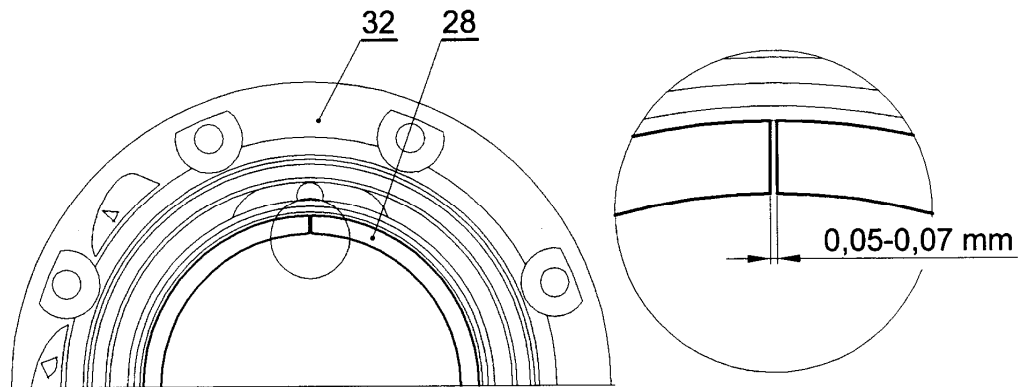

Fig.508 Sealing ring clearance in the lock
- (3) Check clearance in the lock of all new rings after insert to the distributor. Required clearance 0,05 – 0,07 mm (see Fig.508). Set clearance by using of soft file.
- (4) End installation of the distributor P 7900.01 under chapt.2, item 3.C.(6) - (15).